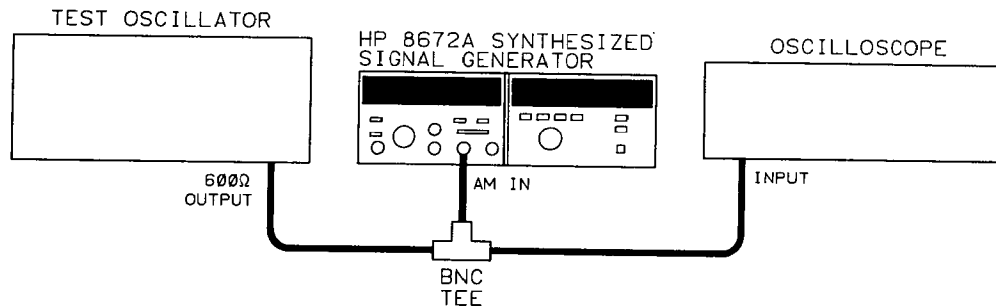

Figure 3-9. AM Check Test Setup
28. Connect the test equipment as shown in Figure 3-9.